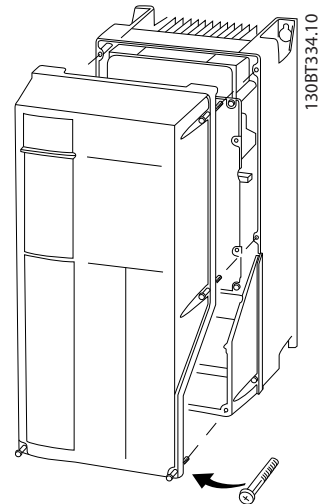

Figure 2.18 Control Wiring Access for A4, A5, B1, B2, C1 and C2 Enclosures
- Or remove front cover by loosening attaching screws. See Figure 2.18.